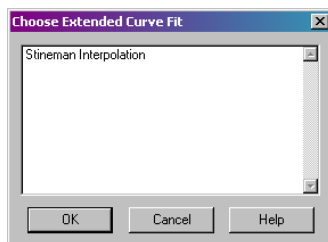

Figure 8-24. The Choose Extended Curve-Fit dialog.
3. The Choose Extended Curve Fit dialog appears with a list of optional curve fits, as shown in Figure 8-24. Select the desired curve fit.